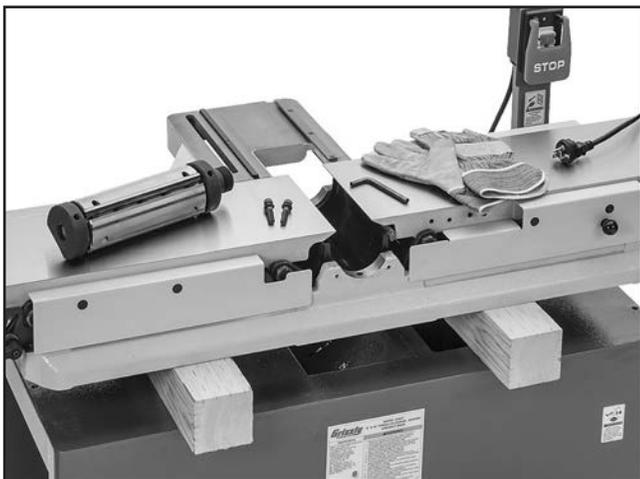

Figure 5. Cutterhead removed.
- Carefully remove bearing blocks and cutterhead from casting (see **Figure 5**).